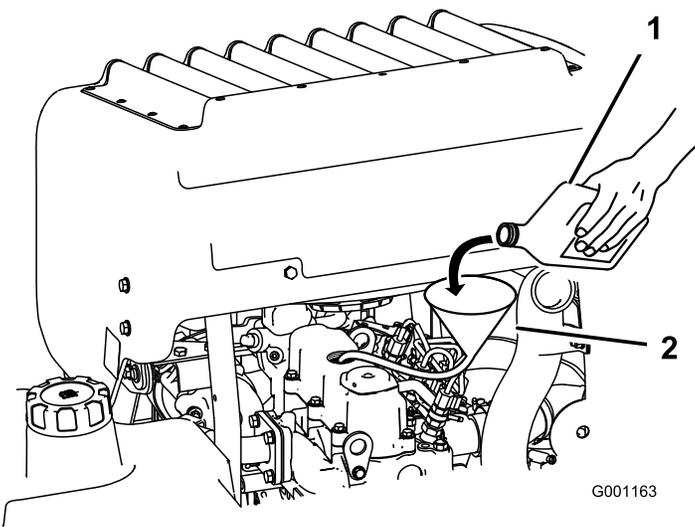

Figure 65
3. Use a hose and funnel to add oil to the engine (Figure 65).